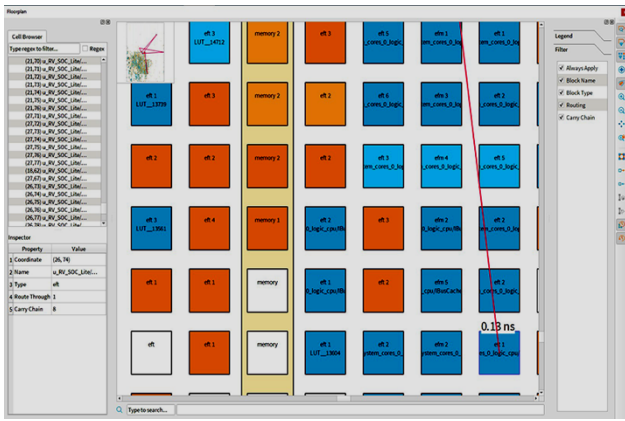

Fig. 9. Debugger Profile Editor Perspective
3. Select the FPGA configuration file (bitstream) from the output stream directory using the "Choose Image File" button (Fig. 9).